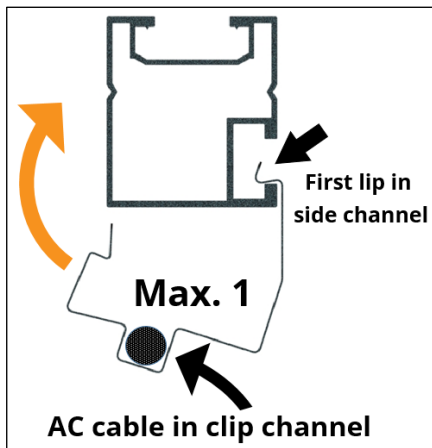

Fig. K1
1. Place the AC cable into the clip channel, position the clip beneath the rail, and then fit the first lip into the side channel of the rail (Fig. K1).